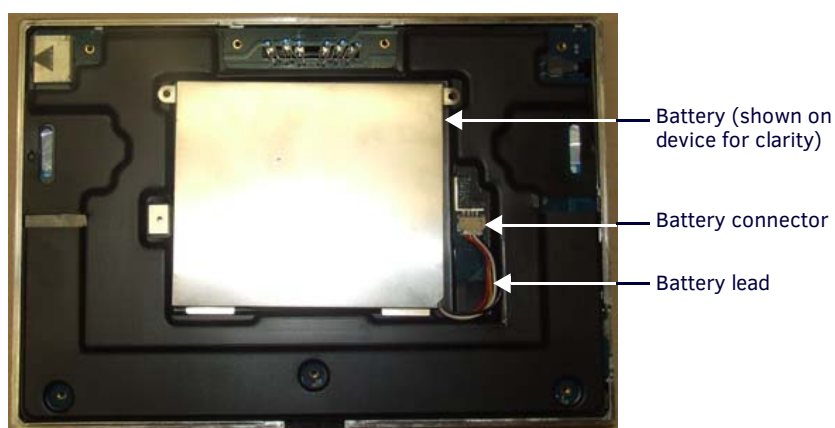

FIG. 121 Interior of MVP-9000i, including female battery connector
7. Carefully remove the back of the device and detach the battery lead at the battery connector (FIG. 121). This will allow the back cover to be detached from the device.
2. Make sure to seat fully the battery plug to the connector in the device (FIG. 121). If fingers cannot be used, use a clean, nonconductive stick or probe to seat the connectors.